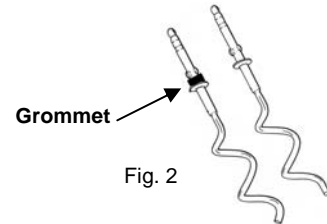

Fig. 2
2. The dough hooks have a set method of fitting into the hand mixer because they are not identical. One has a grommet and the other does not. (Fig. 2)